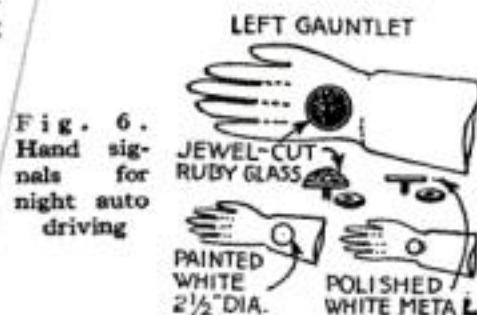

Fig. 6. Hand signals for night auto driving
**F**OR giving hand signals at night, the devices illustrated in Fig. 6 are excellent. One is a white disk painted on the left gauntlet, another is a polished disk of white metal, and the third is a small ruby lens, all of which reflect the light from any following car.—A. G.
while the seams at A, B, and C are first basted or pinned temporarily in the proper position. The purpose of this folding is to conceal the raw edges of the material and to make a finished edge that will wear well. The loop formed also serves to hold welting cord in place if you desire to use it (Fig. 6).